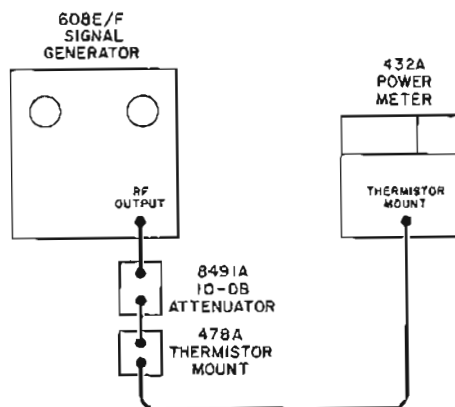

Figure 5-5. RF Output Test Setup
a. Connect signal generator in test setup illustrated in Figure 5-5.
a. Connect signal generator in test setup illustrated in Figure 5-5 omitting 8491A 10-DB Attenuator.